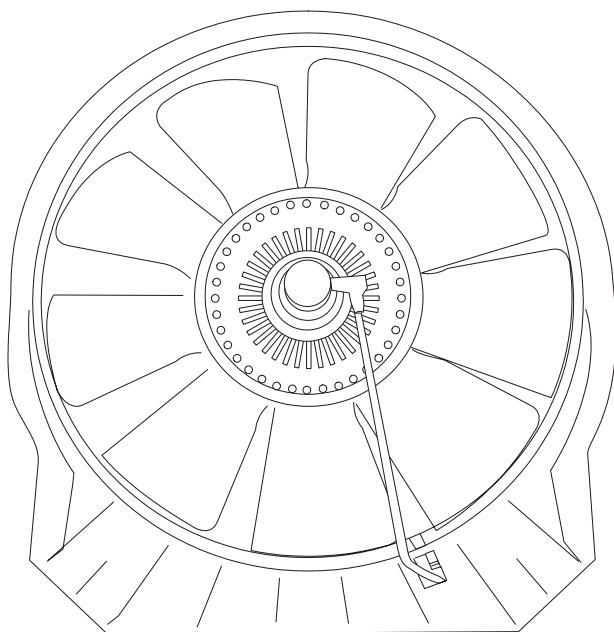

Figure 3.5
- ☐ Lay the fan in the centre of the shroud and pass the fan wire harness and steel sheath through the new hole in the shroud (Figure 3.5 - viewed from the front).